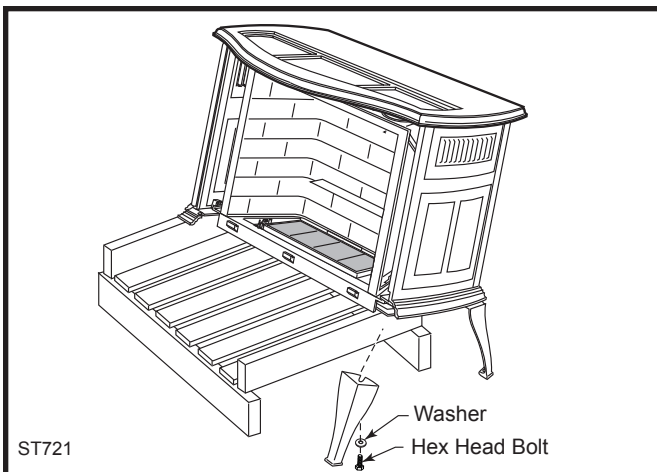

Fig. 7 Carefully tip stove onto back legs. Leave pallet under stove to keep stove from falling fully forward.
3. Carefully tip the stove onto its rear legs. Adjust the pallet to allow access to one of the front leg holes. Be sure to leave the pallet under the stove to prevent the stove from falling fully forward. (Fig. 7)